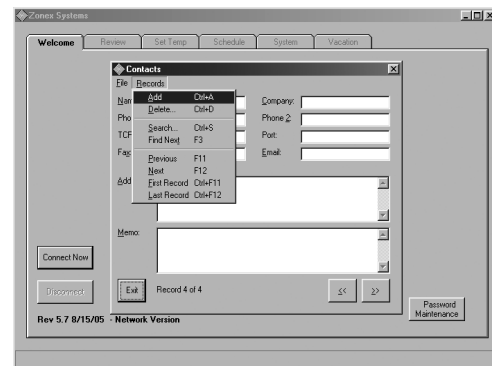

Fig. 5
- f. Click on **ADD** (see Fig. 5); and enter new project name, phone number for the dedicated phone line to this job or IP address and port number, if applicable. Multiple facilities may be accessed from this software.